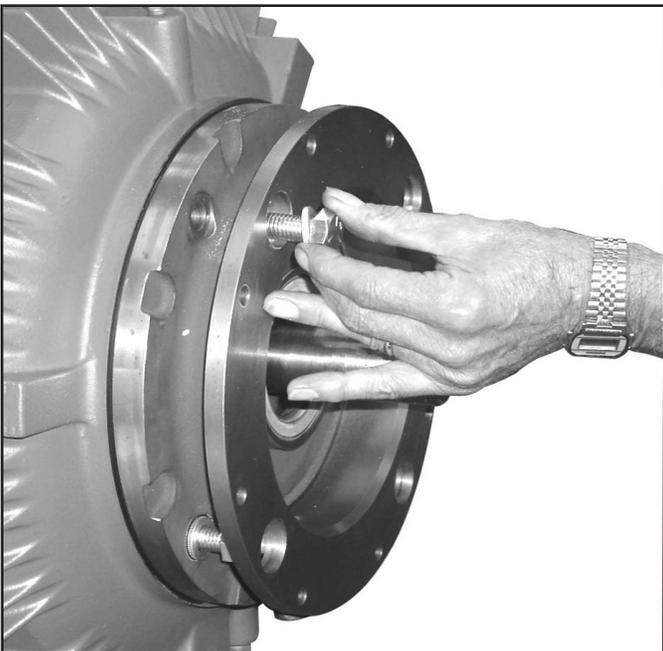

Figure 3 - Installing Housing (#8) to Drive Motor
3. Thread the (4) Hex Hd. Cap Screws (#150) and Lockwashers (#128) into the tapped holes on the motor flange face (See Figure 3 ). Torque 1/2"-13 hex hd. cap screws to 60 lb. ft. or 5/8"-11 hex hd. cap screws to **120 lb. ft.**